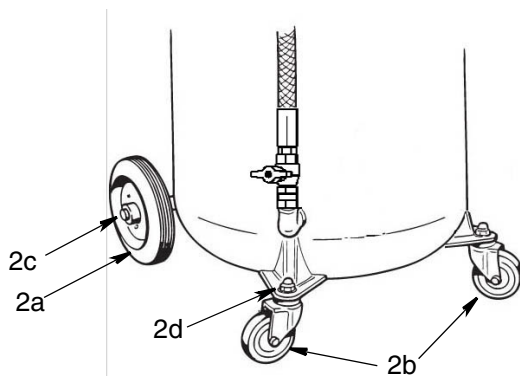

FIG. 3
1. Install large wheels (2a) on axle. Install washer and hex-head bolt (2c) (FIG. 3). Tighten bolt.
2. Install rear caster threaded post (2b) (FIG. 3) through hole in wheel bracket. Install washer, lock washer, and crown nut (2d). Tighten.